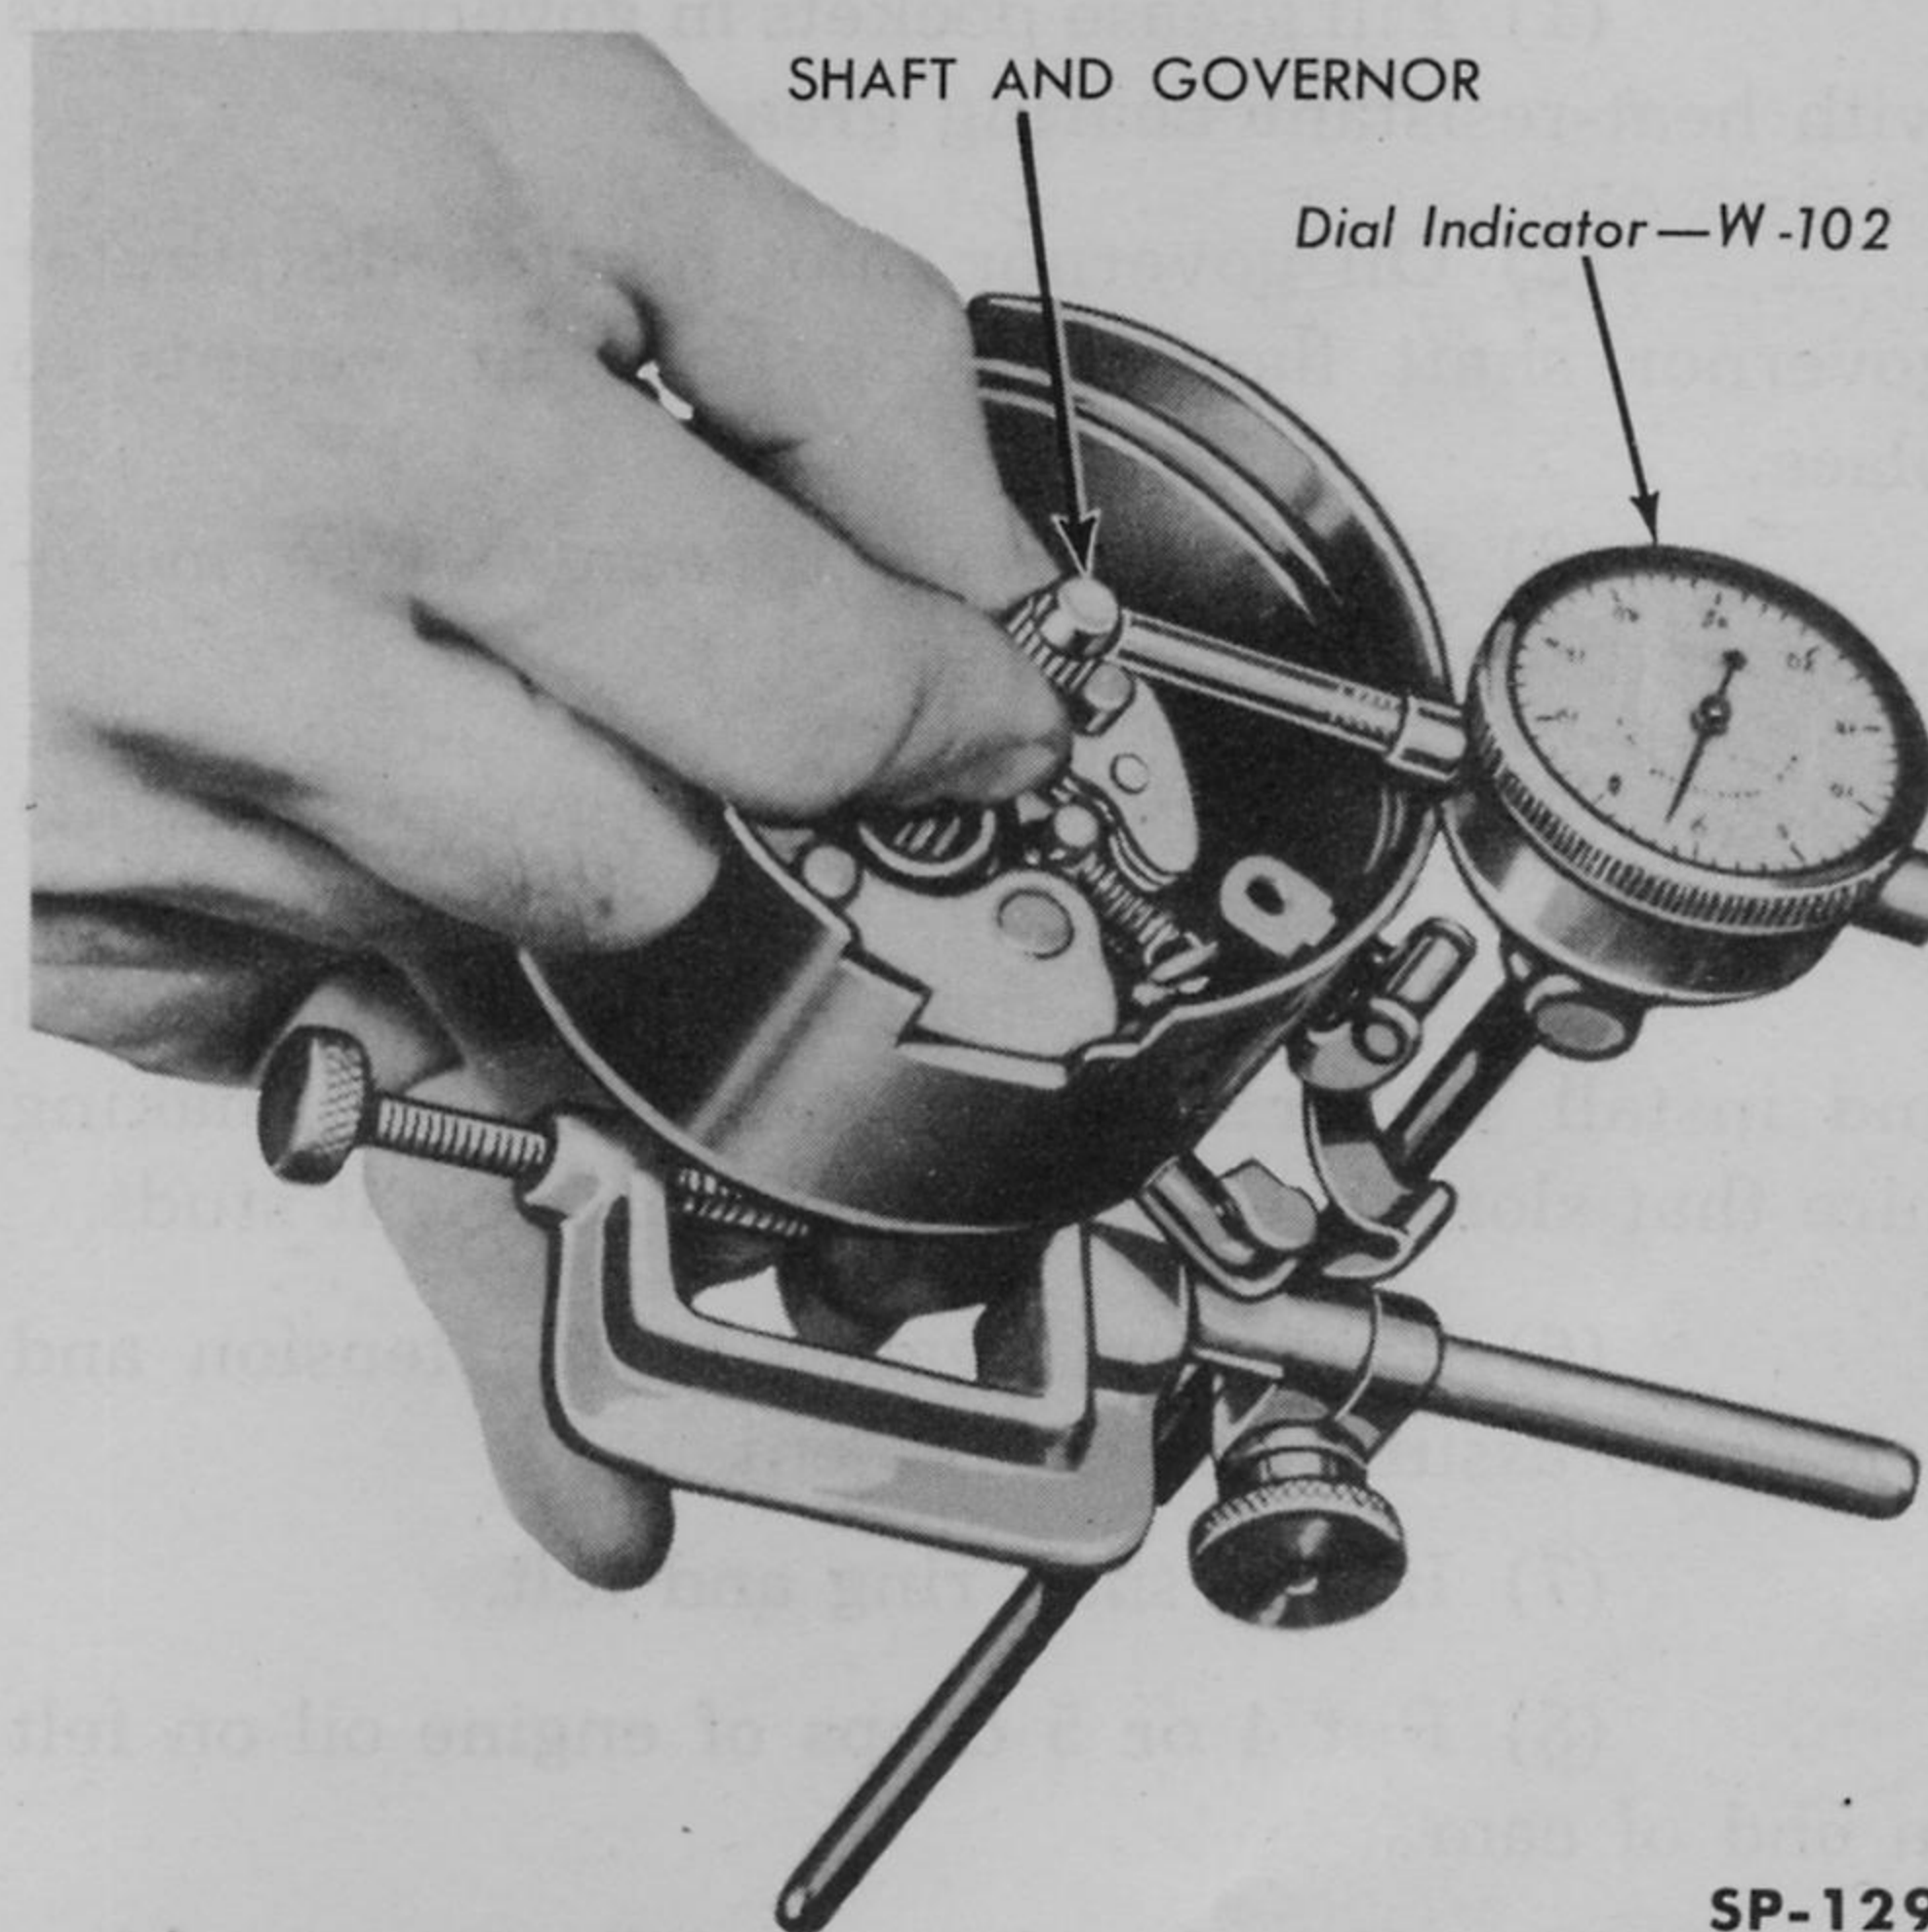

Fig. 434—Checking Distributor Shaft Side Play
(3) **Distributor Base and Shaft** (Fig. 433). Replace the distributor base or housing if cracked or damaged. Check the fit of the distributor shaft in its bushings. Fig. 434 illustrates the use of a dial gauge to measure the amount of radial play. If the play is more than .005 inch remove shaft and replace the bushings. If the wear has reduced the shaft diameter more than .001 inch, replace the shaft, also.